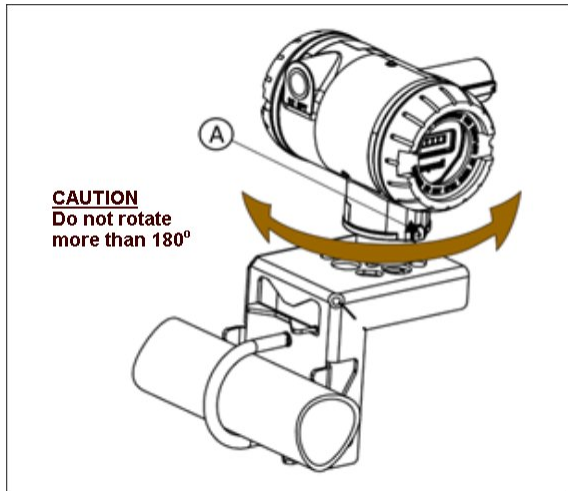

Figure 3: Rotating Transmitter Housing
- Rotating the transmitter housing, see Figure 3.
You can rotate the transmitter for better viewing, access, or antenna position. Loosen set screw (see A in Figure 3) on outside neck of transmitter one full turn. Rotate transmitter housing up to 180 degrees in either direction to desired position. Tighten set screw.